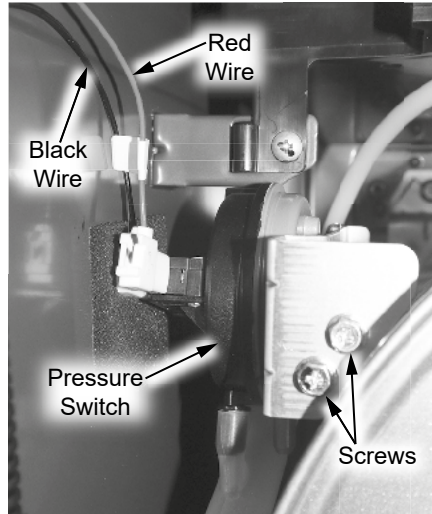

Figure 1 - Pressure switch location
4 Locate the pressure switch on upper left side of the water heater. See Figure 1.
5 Disconnect the black wire harness from the common (C) connector and the red wire harness from the normally closed (NC) connector. See Figure 1.
6 Remove and keep the two screws securing the pressure switch to the water heater. See Figure 1.